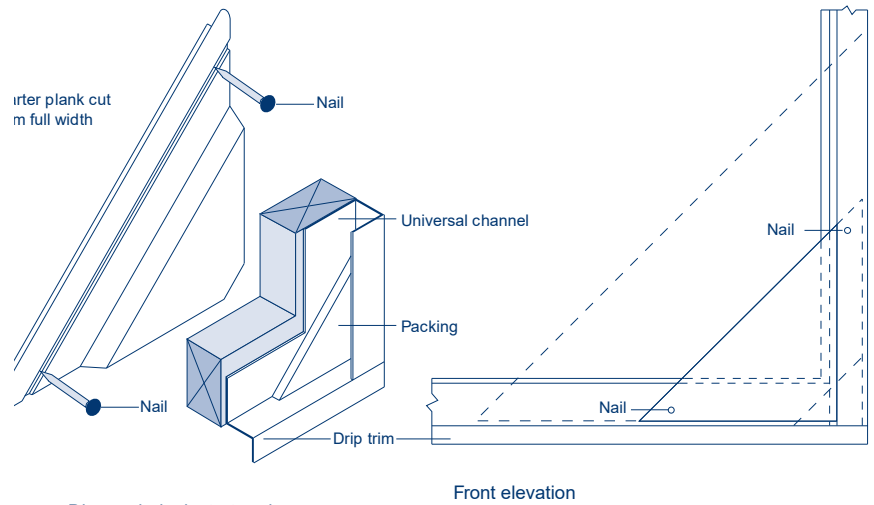

Fig. 34 Diagonal plank starter piece
- Starting from a bottom corner, the first cut piece is located into the angle formed by the starter trim and vertical edge trim, using a packing as necessary (Figure 34).